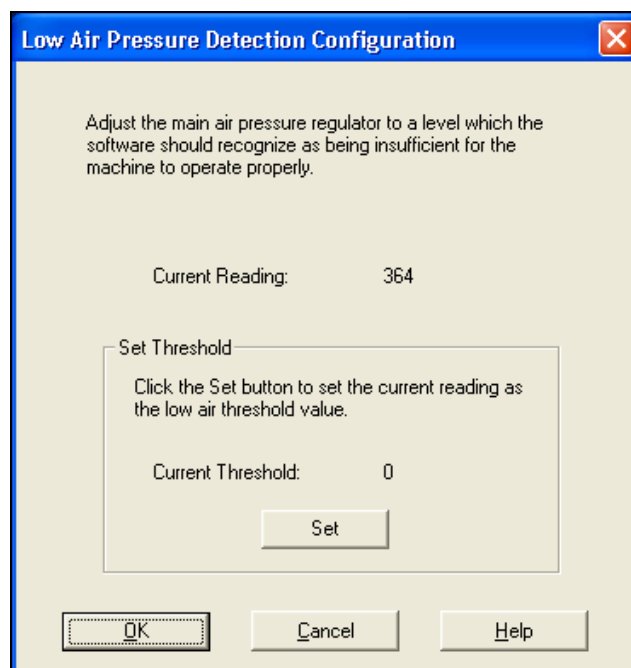

Figure 3-13 Low Air Pressure Detection Configuration Window
- The Low Air Pressure Detection Configuration Window (Figure 3-13) opens.